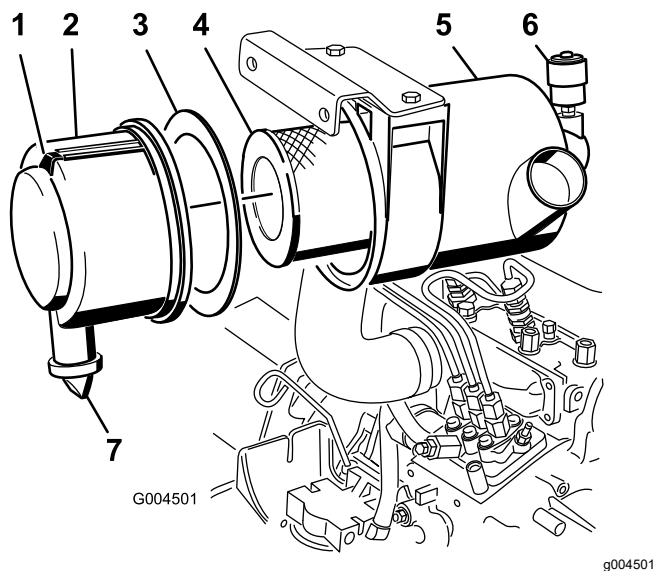

Figure 40
3. Service the air-cleaner filter when the air-cleaner indicator shows red (Figure 40).